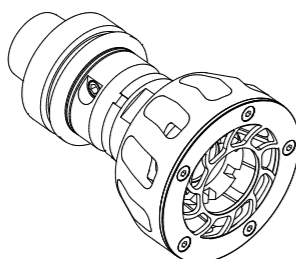

Fig. B1
The Turbinex Hydro is supplied by Wirutex with the bell (2) already fitted to the chuck (1). See Fig. A. The bell can be fitted with a flange (Fig. B) or grille (Fig. B1).
The flange (Fig. B) and the grille (Fig. B1) are secured to the bell using 5 TSPEI UNI 5933/DIN 7991 M4X8 screws.